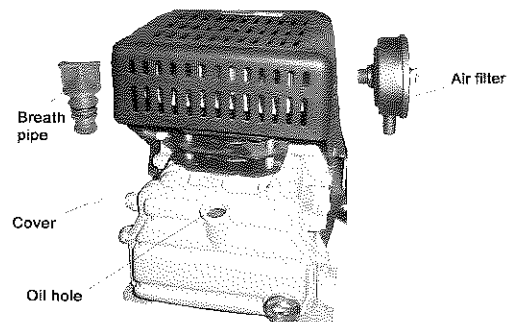

Fig.4
- (1) Put the cover off first and put the breath pipe on the oil-hole and set the air filter before the compressor run (Fig.4).
- (2) Never unscrew any connecting part when the tank is in pressure condition.
- (3) Never disassemble any electrical part before disconnecting the plug.
- (4) Never adjust the safety valve carelessly.